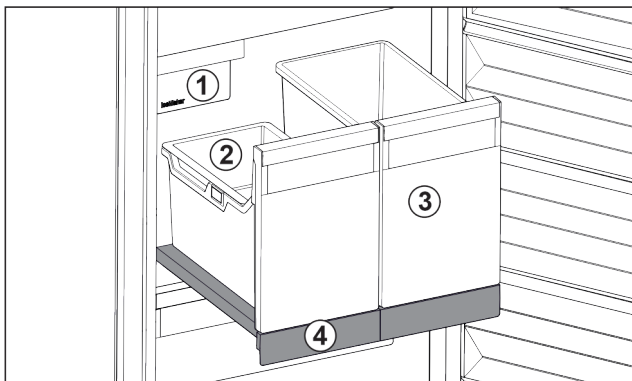

Fig. 190 Pull-out board with IceTower
There are two high (IceTower) containers on the pull-out board. Ice cubes from the IceMaker are collected and stored in the *Fig. 190 (2)* container. The container *Fig. 190 (3)* is suitable for storing tall foodstuffs or beverages such as pizzas or alcoholic drinks.